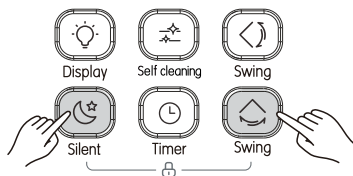

Figure 3.19
- 1) Press  and  at the same time to lock the button (see Figure 3.19), and the screen will display the lock icon  ;